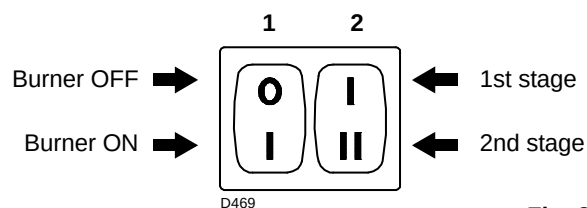

Fig. 27
- switch 1)(Fig. 27) to the "Burner ON" position;
- switch 2)(Fig. 27) to the "1st stage" position.
Now turn switch 2)(Fig. 27) to the 2nd stage position: the servomotor will open the air damper and, at the same time, the gas butterfly valve at 90°.
Turn switch 2)(Fig. 27, page 25) to the 1st stage position: the servomotor 1) will close the air damper and, at the same time, will also close the gas butterfly valve to 15° (i.e. to the factory setting).
- If it is necessary to increase it, pass to 2nd stage by activating switch 2)(Fig. 27, page 25) and slightly increase the angle of the orange lever with small, regular movements (i.e. bring it from an angle of 15° to 17° - 19°....).